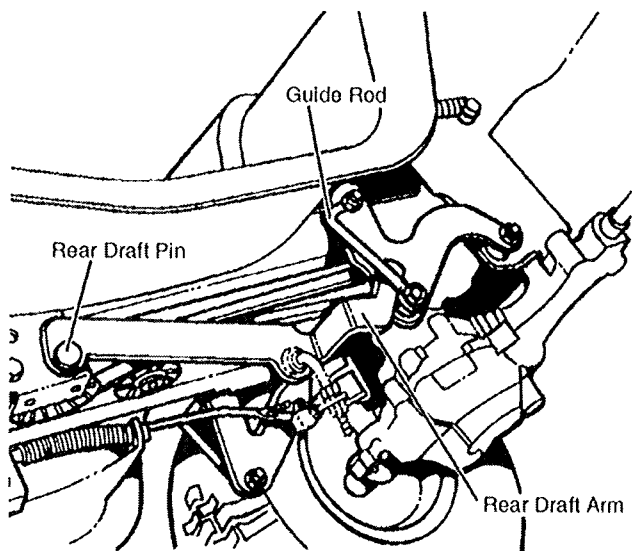

FIG. 46
- Remove spring pin clips from two rear draft pins holding rear draft brackets to mower frame. (See Fig. 46)
- Lower deck lift lever to lowest position, while centering rear draft arms in guide rods. (See Fig. 46)